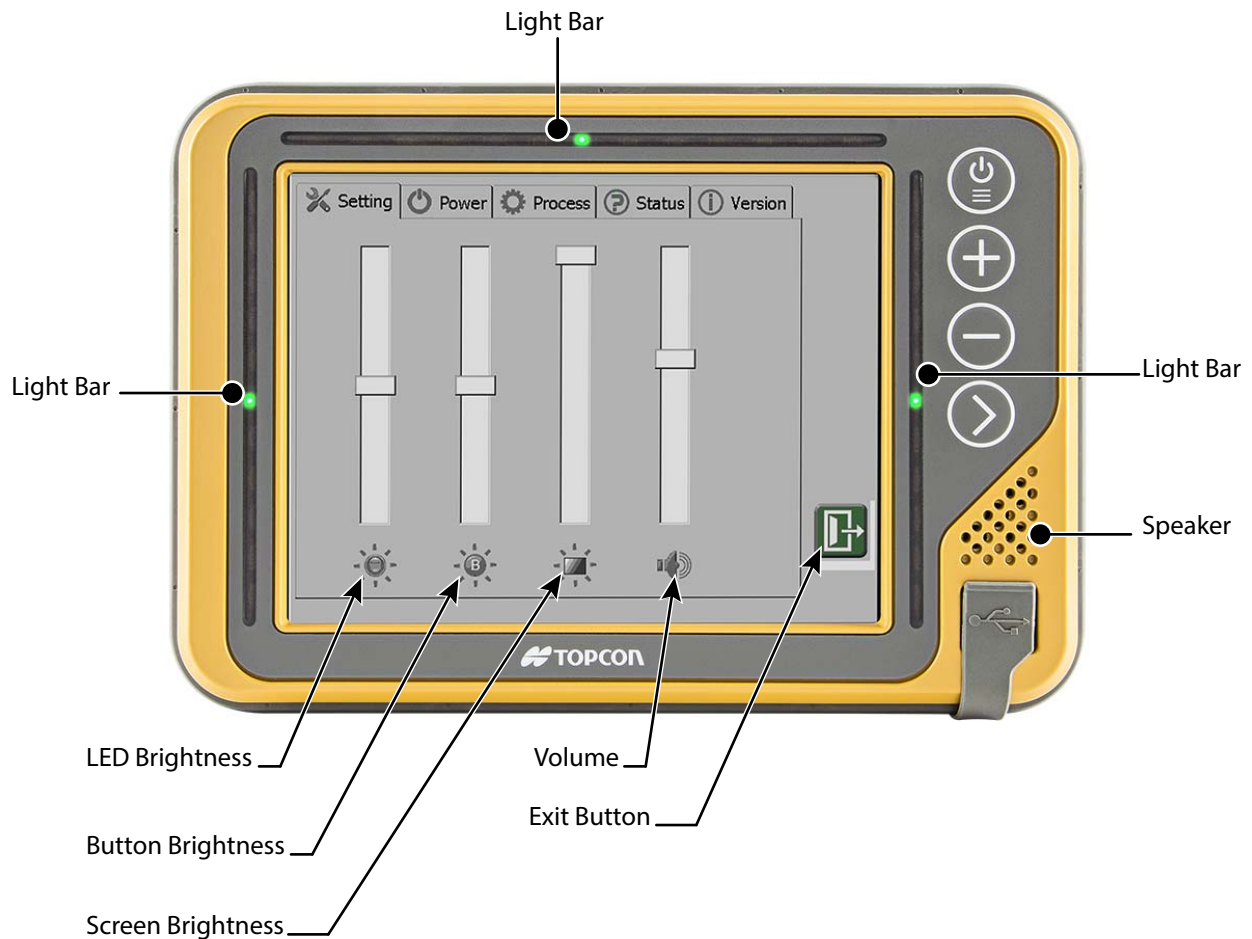

Figure 2: GX-55/GX-75 Configuration Screen
1. Press and hold the **Next View** button for three seconds to activate the configuration screen (Figure 2).